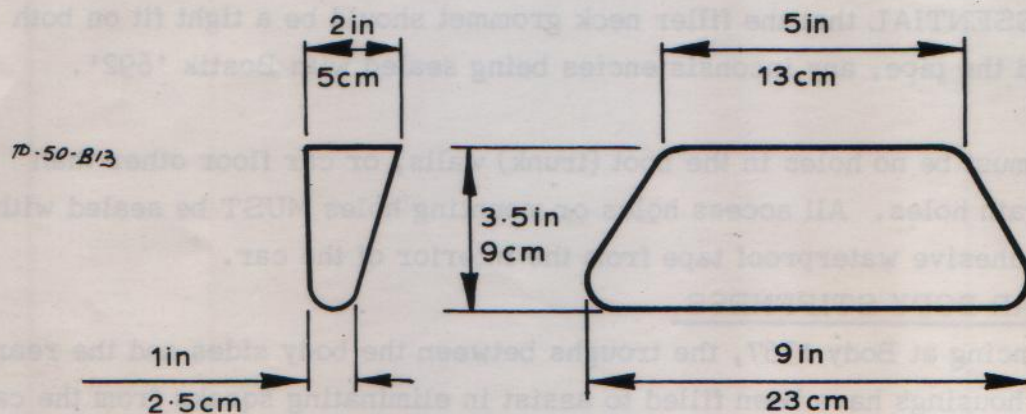

Fig. 21. APPROXIMATE SIZE OF BLOCK
3. Shape the blocks which are to be used to fill the troughs, as in Fig.21, such that they are a firm fit and finished flush with the surrounding G.F.R.P.